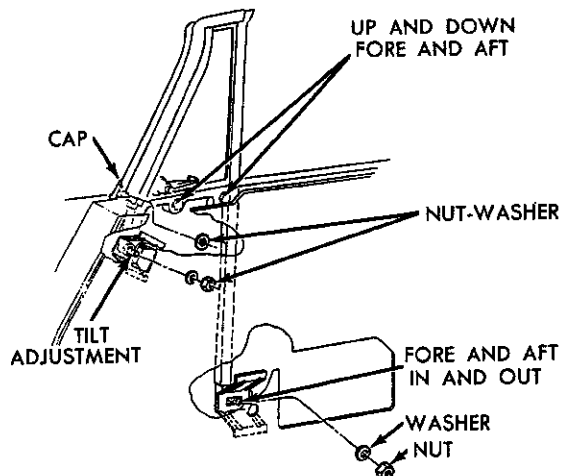

Fig. 67—Vent Wing Adjustments (Chrysler)
(1) Insert the vent wing assembly down into the door frame.
(2) Install the vent wing attaching screws finger tight.
(3) Install the vent wing lower adjusting screw lock nut and washer.
(4) Close the door and inspect the vent wing alignment with the "A" post and the roof rail weather seal.
(5) Correct any misalignment (Figs. 67 and 68) and tighten the attaching bolts and adjusting screw lock nut.
(6) Install the weather shield, trim panel (connect the wires to the control switch) and the inside handles.